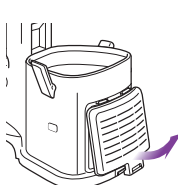

Fig. 22
- 1** Remove the filter cover. (**Fig. 22**)